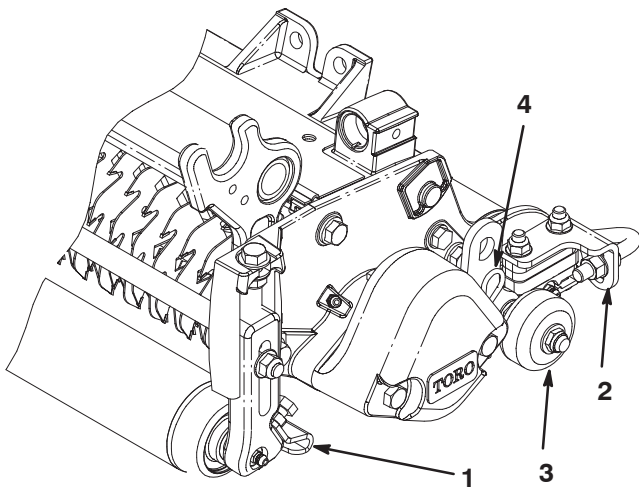

Figure 5
1. Loosen flange nuts securing roller scrapers (Fig. 5).
Before the verticutters are lowered to the shop floor or removed from the traction unit, lower the transport rollers (Fig. 5) to protect the blades from hard surface contact.